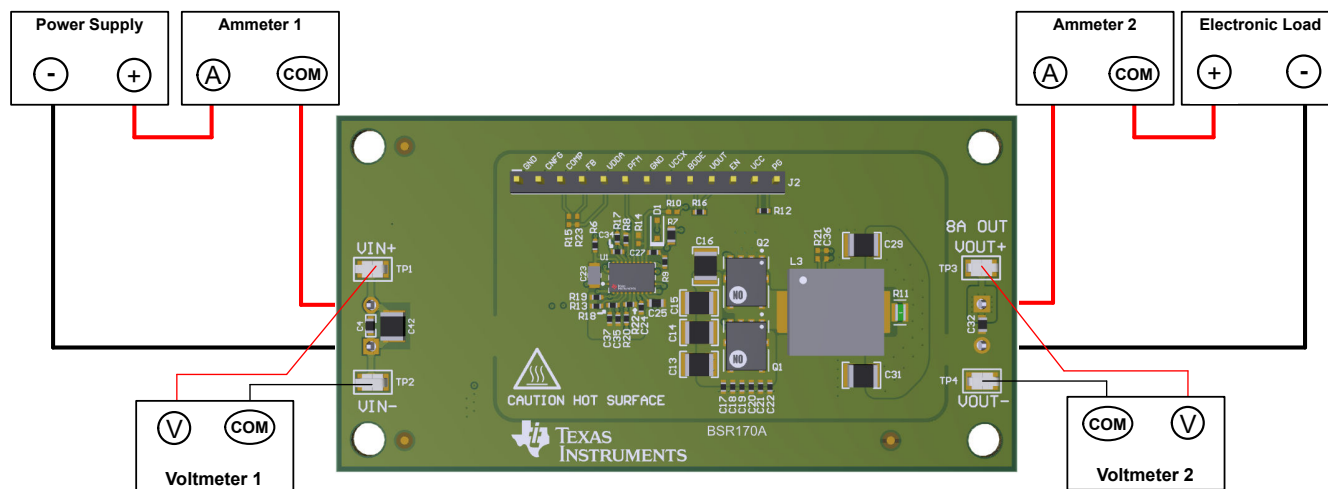

Figure 5-1. EVM Test Setup
Referencing the EVM connections described in Table 5-1, the recommended test setup to evaluate the LM5149-Q1EVM-400 is shown in Figure 5-1. Working at an ESD-protected workstation, make sure that any wrist straps, boot straps, or mats are connected and referencing the user to earth ground before handling the EVM.
1. Prior to connecting the DC input source, set the current limit of the input supply to 0.1 A maximum. Ensure the input source is initially set to 0 V and connected to the VIN+ and VIN– connection points as shown in Figure 5-1.